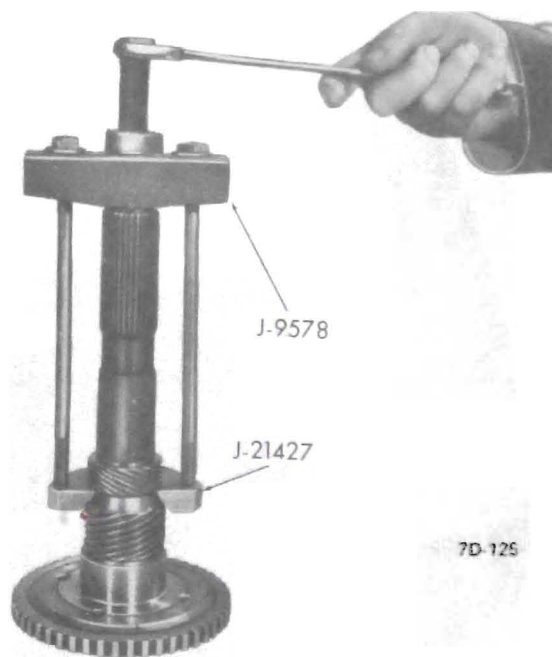

Figure 7D-66
b. Install new steel speedometer drive gear. Press to $5\frac{21}{32}$ " for "BS" and "BB" models, and $11\frac{15}{32}$ " for "BC", and "BT" models. See Figure 7D- 67.